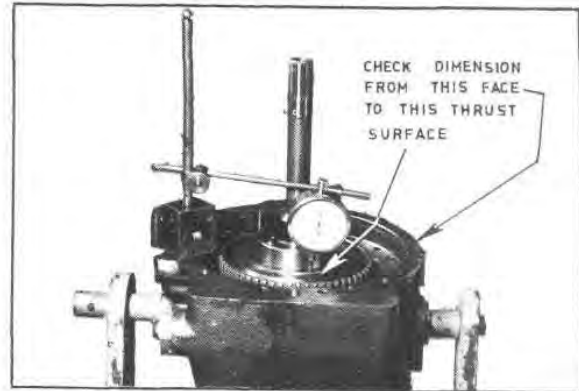

Fig. G74 — Checking for Selection of the Thrust Washer
38. To make the proper selection of the front thrust washer, move the drive gear, output shaft, and associated parts (all tight) rearward. Take a measurement from the front face of the case to the thrust face on the forward clutch cylinder (Figure G74). If the measurement is $.405''$ or under, use the $.061''$ to $.063''$ thick thrust washer. If the measurement is over $.405''$, use the $.085''$ to $.087''$ thick washer. End clearance of the completely assembled forward and reverse unit should be $.004''$ to $.043''$.